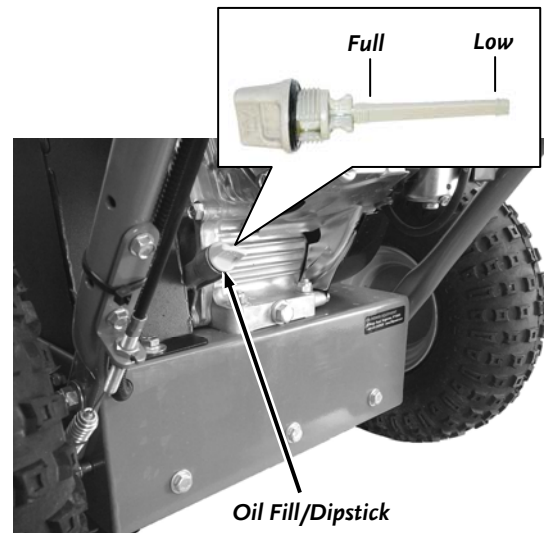

Figure 5
1. Position the machine so the Frame and Engine are level. Remove the Oil Fill/Dipstick (**Figure 5**) and clean the end of it with a rag.